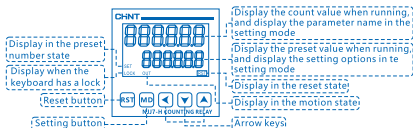
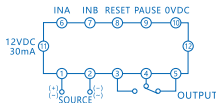

Figure 3 Panel Diagram
Figure 4 Wiring Diagram
3.2 Panel diagram: see Figure 3; Wiring diagram: see Figure 4~ Figure 6; Logic selection diagram: see Figure 7; Output wiring diagram: see Figure 8.